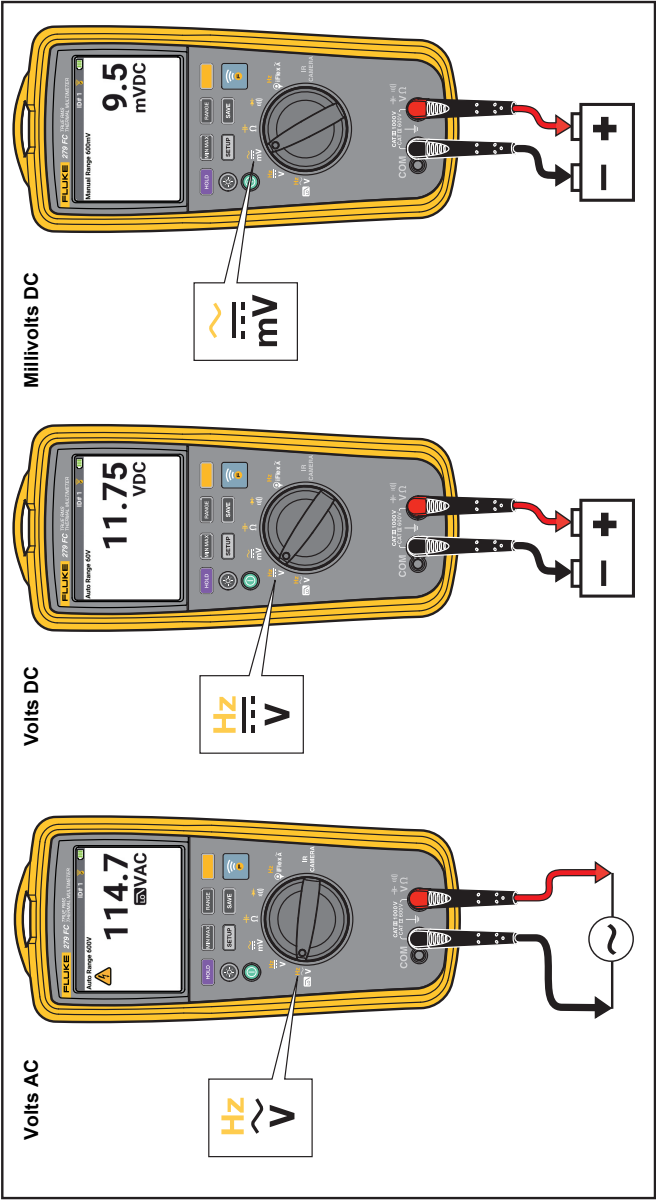

Figure 4. AC and DC Voltage Measurements
- AC and DC Voltage Measurements. See Figure 4.
1. Turn the rotary dial to . See Figure 4.